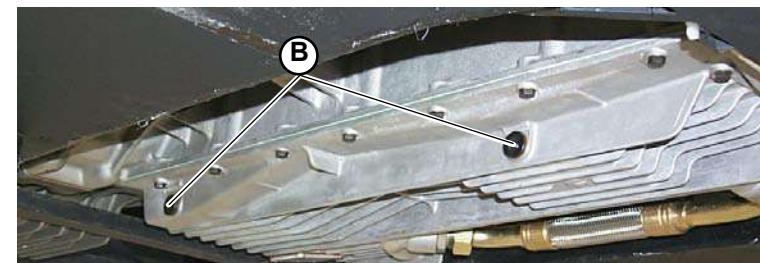

Fig.2
3. Unscrew the two plugs (B-**Fig.2**) on the oil pan and allow the oil left in the engine to drain out: then clean the plugs and tighten them.